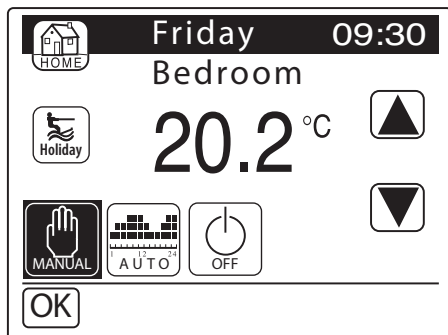

Fig. 6
*From this menu it is possible, by pressing on the name of the involved zone, to access the menu where the corresponding settings can be modified (fig. 6).*
Press on the box for one of the air conditioning zones. The menu will appear as in fig. 6. Press on the **MANUAL** icon to activate MANUAL operation.